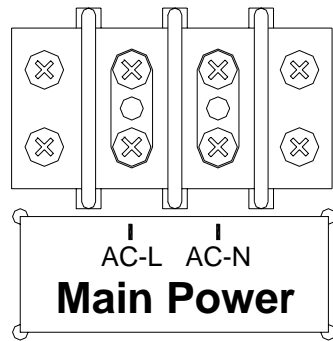

Figure 8 Power Connections
3. Connect the AC line wire and AC neutral wire to the **Main Power** terminal block on the junction chassis according to figure 8.